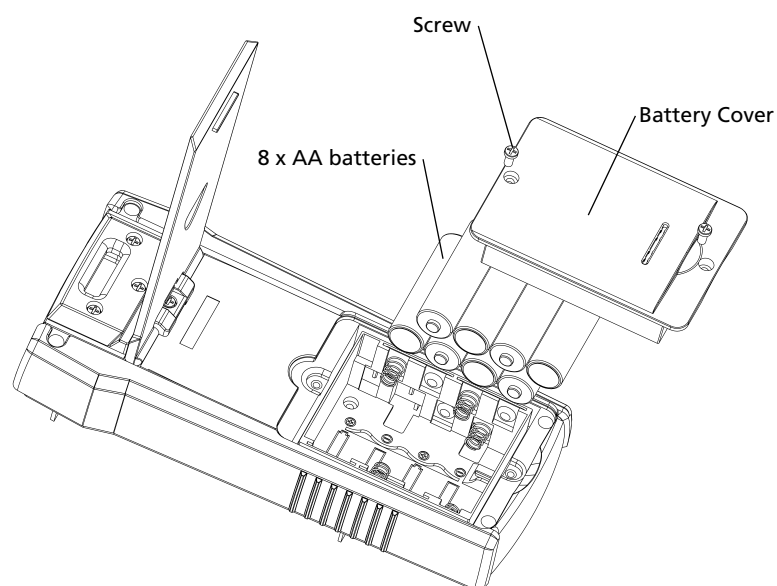

Figure 5.1a: Changing Transmitter batteries
3. Remove the battery cover (Figure 5.1a).